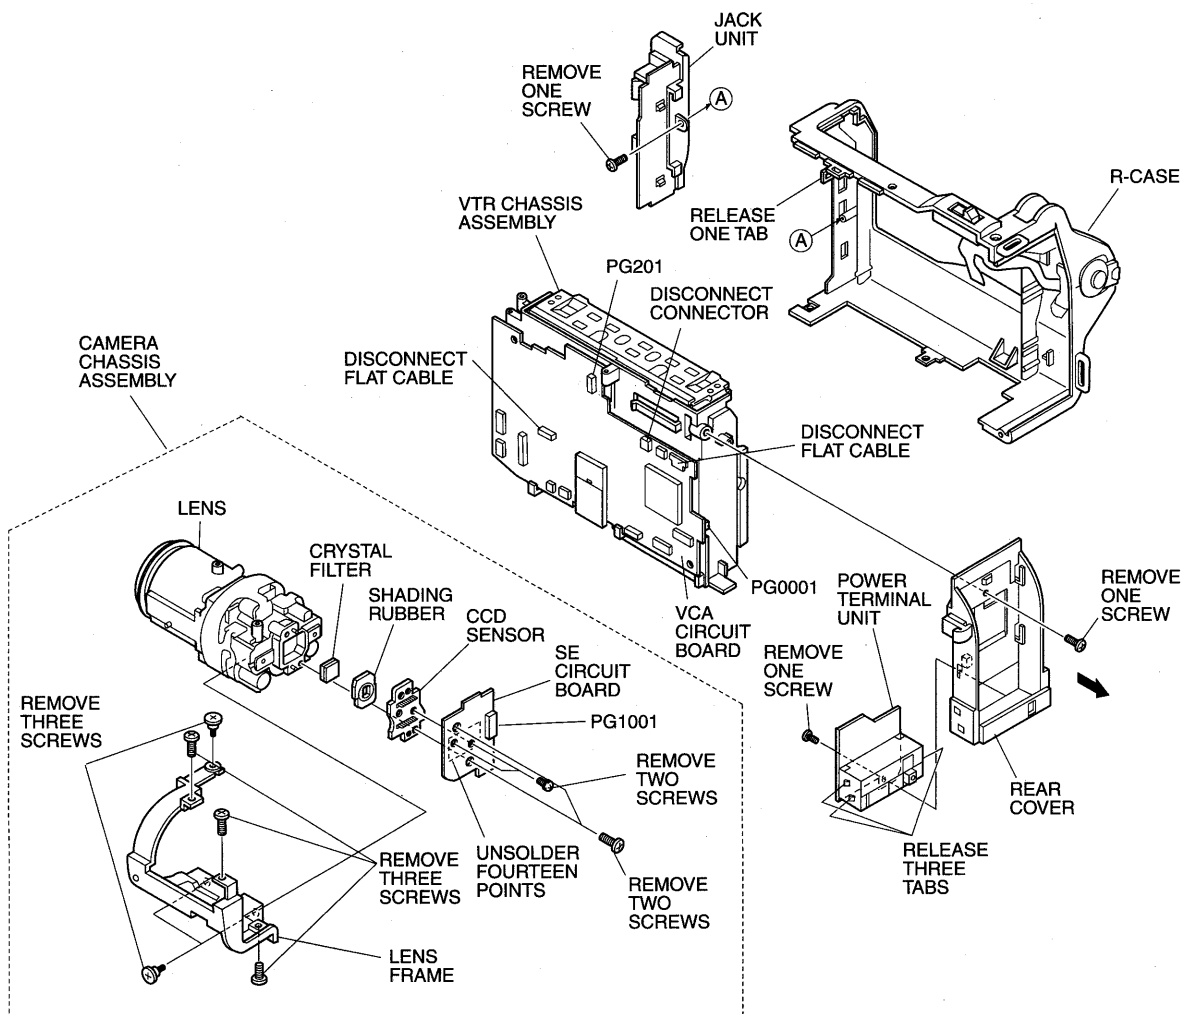

Fig. 2-6
2.6 Camera Chassis Assembly (Lens Frame, Lens, SE Circuit Board, CCD Sensor), VCR Chassis Assembly, Jack Unit, Rear Cover, Power Terminal Unit (Fig. 2-6)